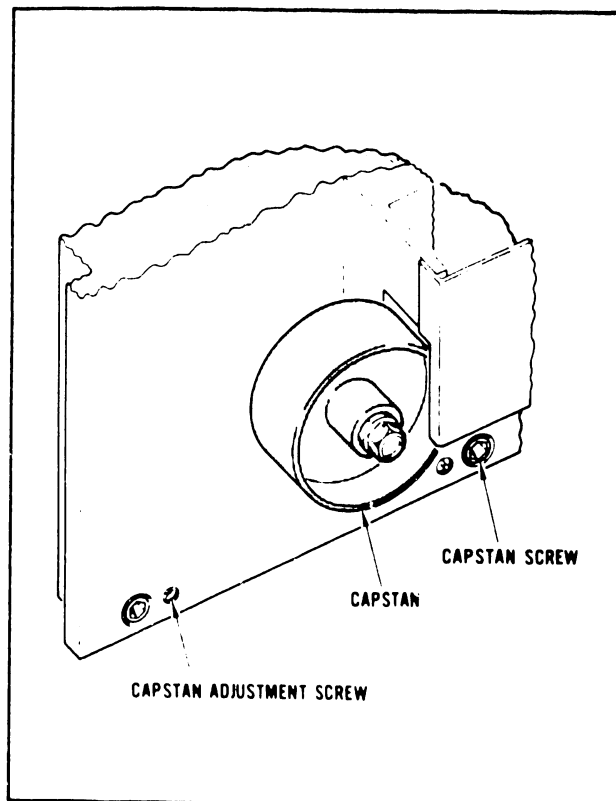

FIGURE 4-90 CAPSTAN PARALLELISM ADJUSTMENT
- a. With tape stopped, loosen the capstan screws. See Figure 4-90.